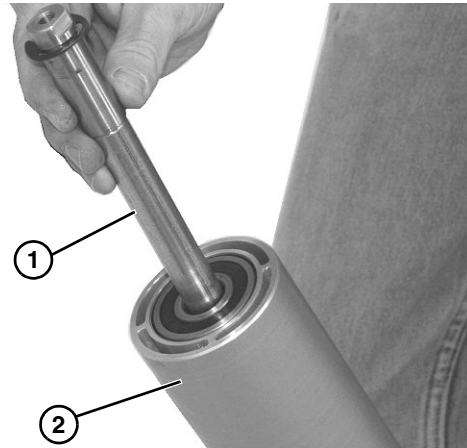

Figure 38
6. Slide the shaft assembly (**Figure 38, item 1**) out of the pulley (**Figure 38, item 2**).